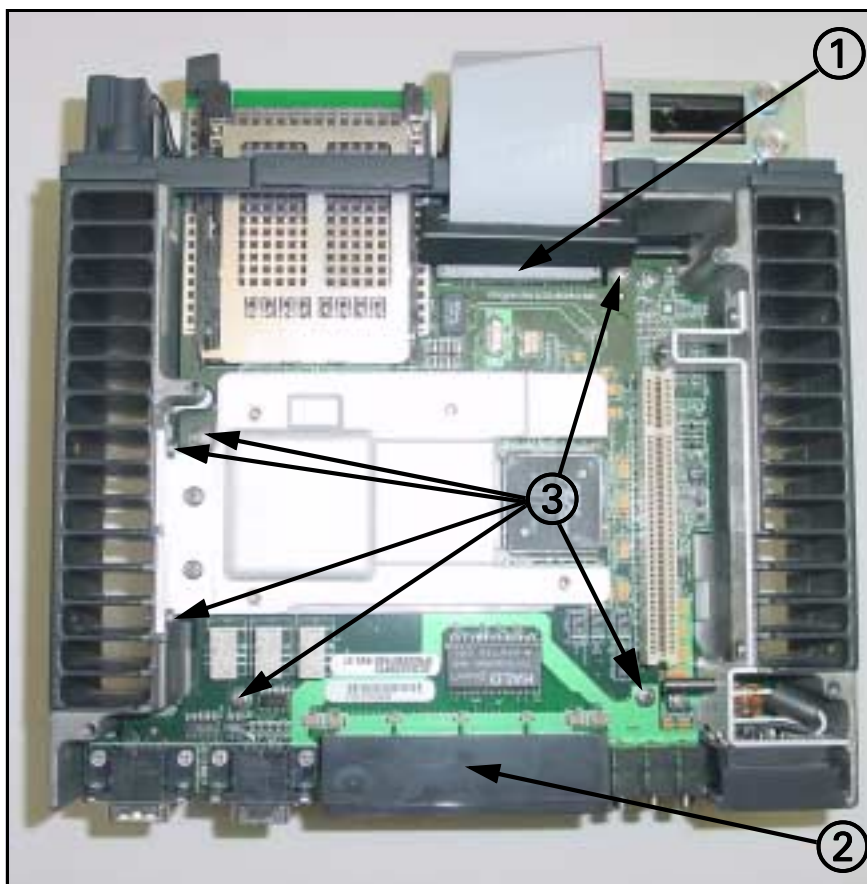

Figure 10-8 MDS (top cover removed)
- 1) Unplug ribbon cable connector (① in Figure 10-8) from mother board, and fold back.
- 2) Remove and save plastic ethernet cover (② in Figure 10-8).
- 3) Remove and save 6 Phillips-head screws (③ in Figure 10-8) that secure daughter board to mother board.